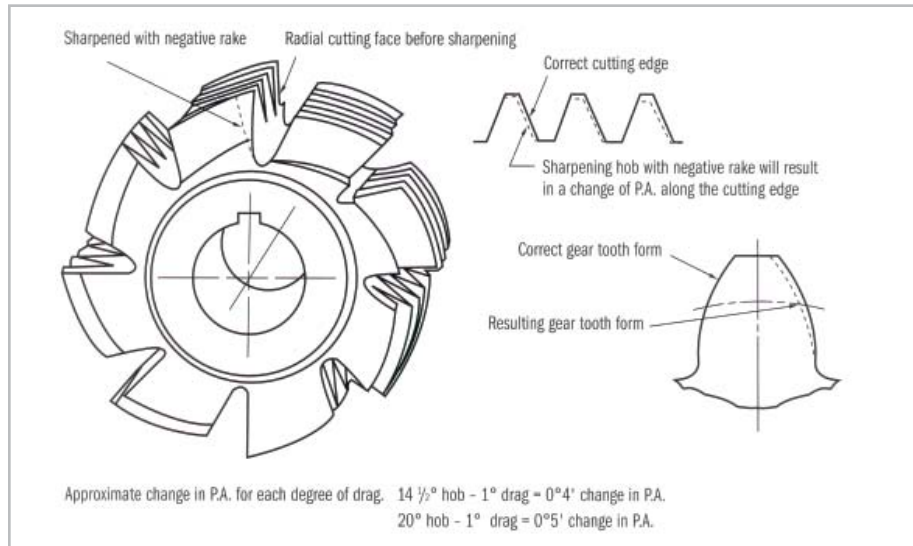

Figure 6. Effect on profile of a hob resharpened with negative rake when the cutting face should be sharpened radial.
- 1) Hob cutting faces are sharpened with negative rake (Figure 6)